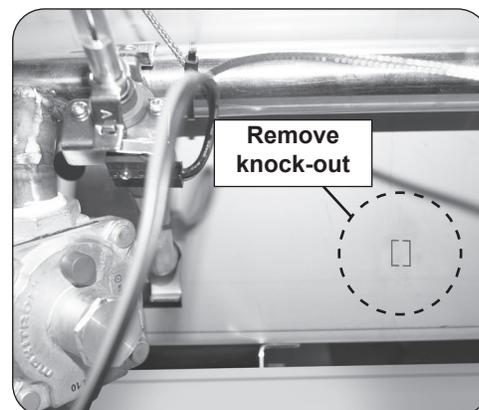

Fig. 4-2 Remove knock-out (manifold firewall)
2. From inside the control panel, locate and remove the knock-out located on the manifold firewall. See Fig. 4-2.